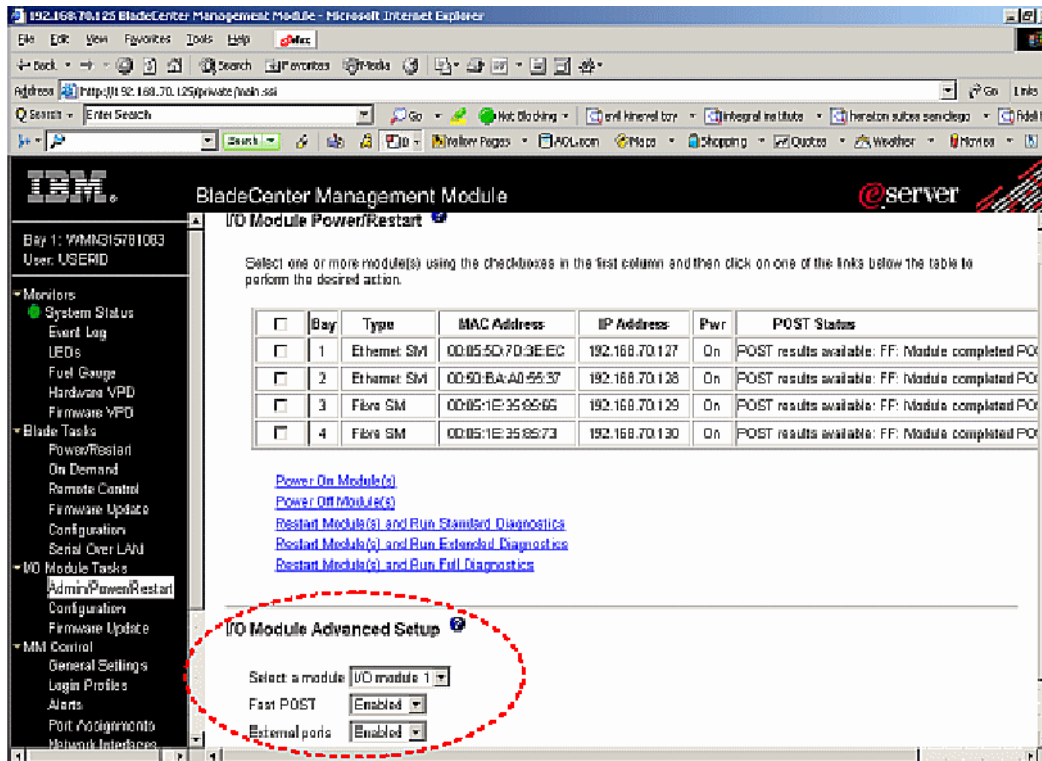

Figure 5-50 Disabling/Enabling External SAN Switch Module Ports
1. Reinitialize the external ports from the Management Module GUI. Simply disable and then re-enable the External Ports (see Figure 5-50).